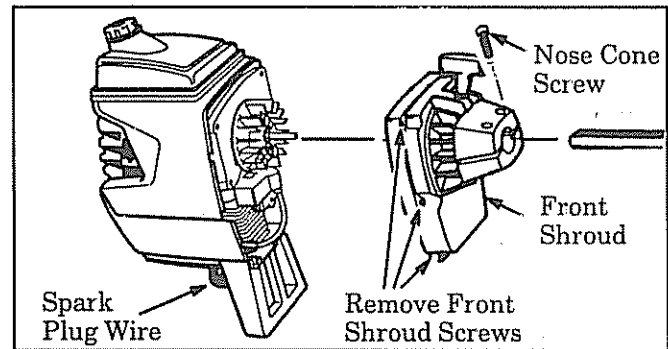

Figure 18
1. Disconnect spark plug wire. Figure 18 .
5. Loosen the two "Nose Cone" screws and remove the tube from the front shroud. Figure 18 .
6. Remove the six front shroud screws with the small hex wrench provided. Figure 18 .
7. Separate front shroud from engine. Figure 18 .